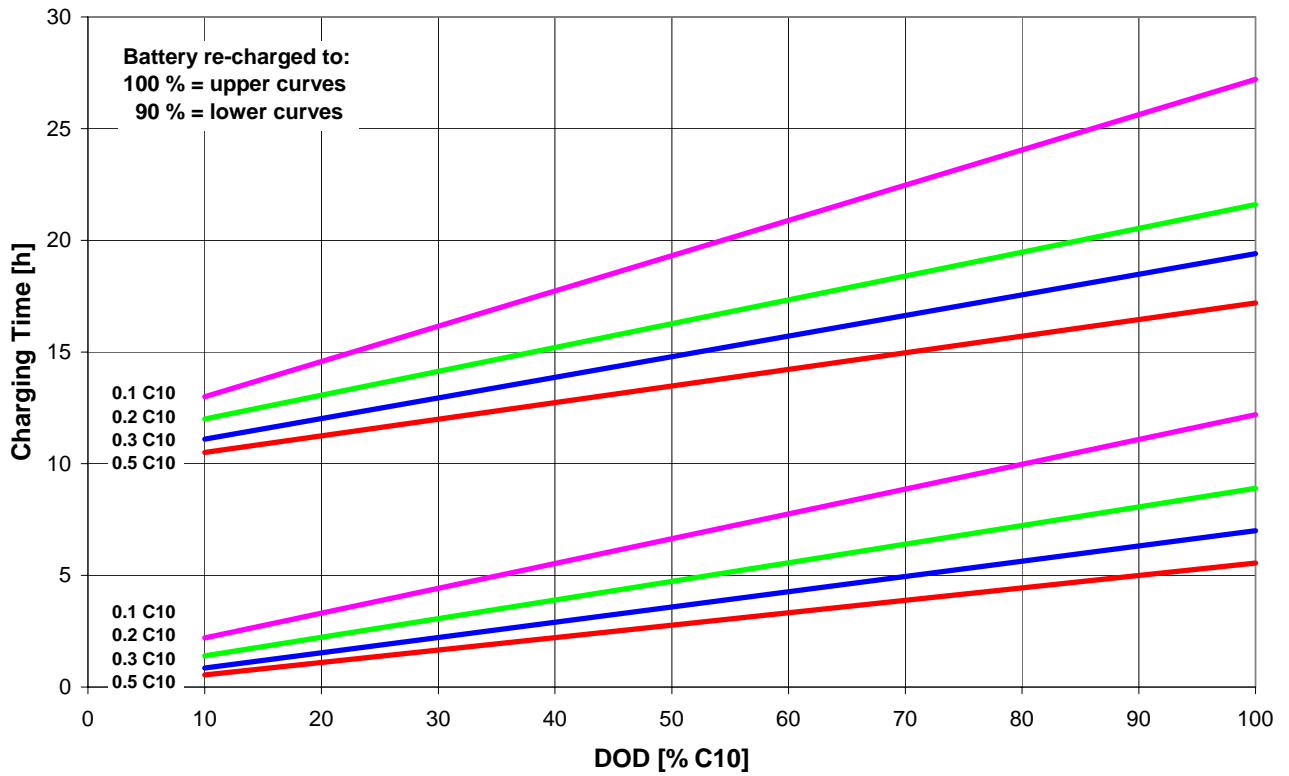

Fig. 7: Charging Time vs. Depth of Discharge (DOD) - Re-charging with 2.27 Vpc and different currents (Ampere = Ah-value of C₁₀)
- The constant current – constant voltage (IU) charging mode is the most appropriate to achieve a very long service life to VRLA batteries. The following diagrams give guide values of time required to recharge a battery at float voltage or enhanced voltage (Boost charge) up to 2.40 Vpc (at 20° C) depending on depth of discharge (DOD) and initial current.
- Example on how to interpret the diagrams (fig. 7): A battery discharged to 75% depth of discharge (DOD) can be re-charged to 90% available capacity within about 7 hours at a charge voltage 2.27 Vpc and a charge current 0.2 C₁₀ (20% of the capacity, but the value in Ampere).